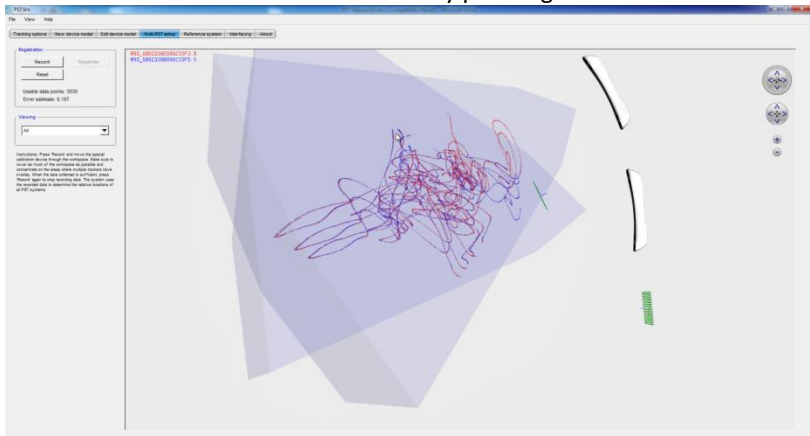

Figure 6.18. Registration results
- Press the “Registrate” button to execute the registration procedure. This can take from a few seconds to a couple of minutes, depending on the size of the data. Upon completion, the registration results are shown in the live view. The recorded point trajectories should be placed over each other (as illustrated in Figure 6.18), where the error estimate indicates the quality of the registration. A number below 0.5 is generally a good value.